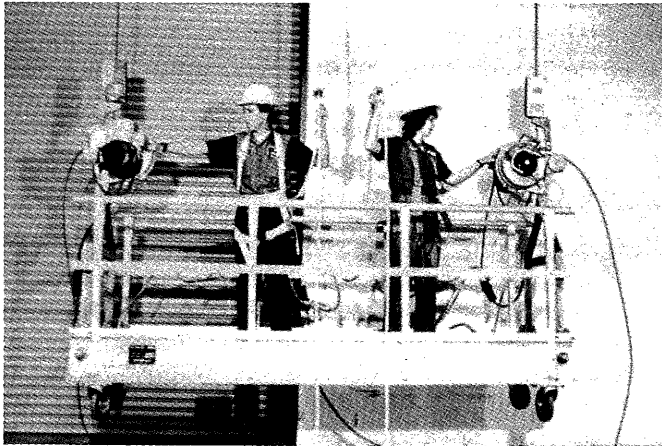

Figure 5.1
1. Check that each person has a separate drop line that is adequately tied off to a substantial building structure; but not to the same device used to support the Sky Climber® hoist suspension rope. See Figure 5.1.